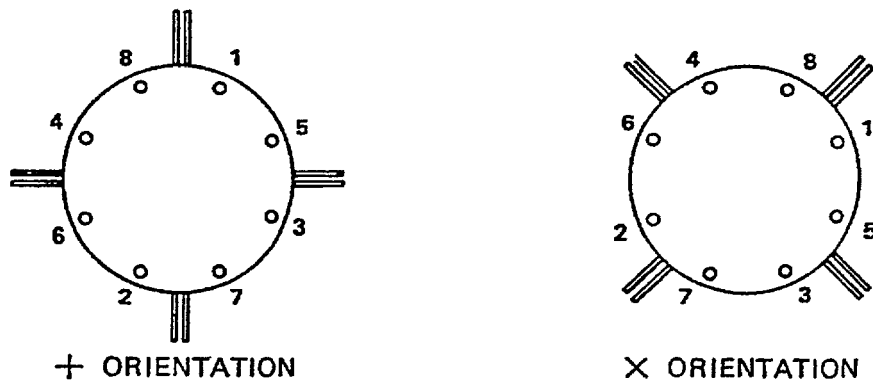

Figure 4-9E. Bomb Fin Mk 15 Installation
- j. After verifying that aluminum setscrews have been installed, refer to Figure 4-9E and tighten setscrew No. 1 until snug; then back it off one-half turn. Tighten No. 2 and No. 3 until snug; then back off No. 3 one-half turn. Tighten Nos. 4, 5, 6, 7, and 8 in order; then retighten Nos. 1, 2, 3, and 4.